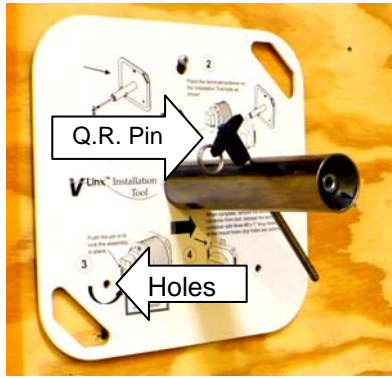

Fig. 2
1. - Determine the optimum location for the V-Linx FDT Terminal. Standard mounting is to a vertical interior wall approximately 60 inches from the floor (optional mounting is to a suitable horizontal surface). To facilitate the installation it is recommended to use the V-Linx Installation Tool. Refer to Figure 2